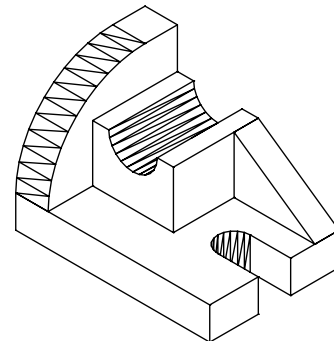

Figure 3-123 Solid aligned with the base
18. Extrude the region to a depth of 16 units and then move it so that it is properly aligned with the base, see Figure 3-123.